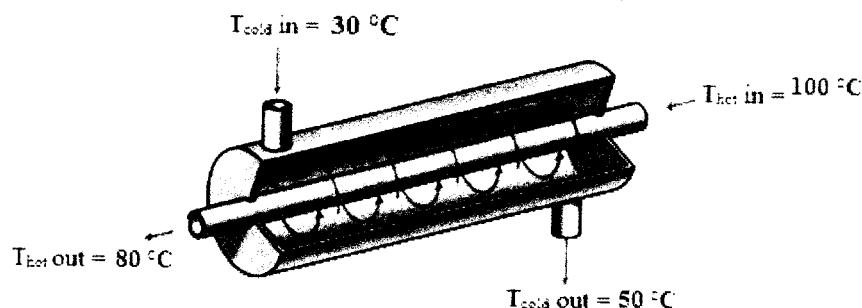

Figure Q4(b): Counter flow heat exchanger / **Rajah S4(b):** Penukar haba aliran songsang
- (b) **Figure Q4(b)** shows the counter flow heat exchanger. Calculate;